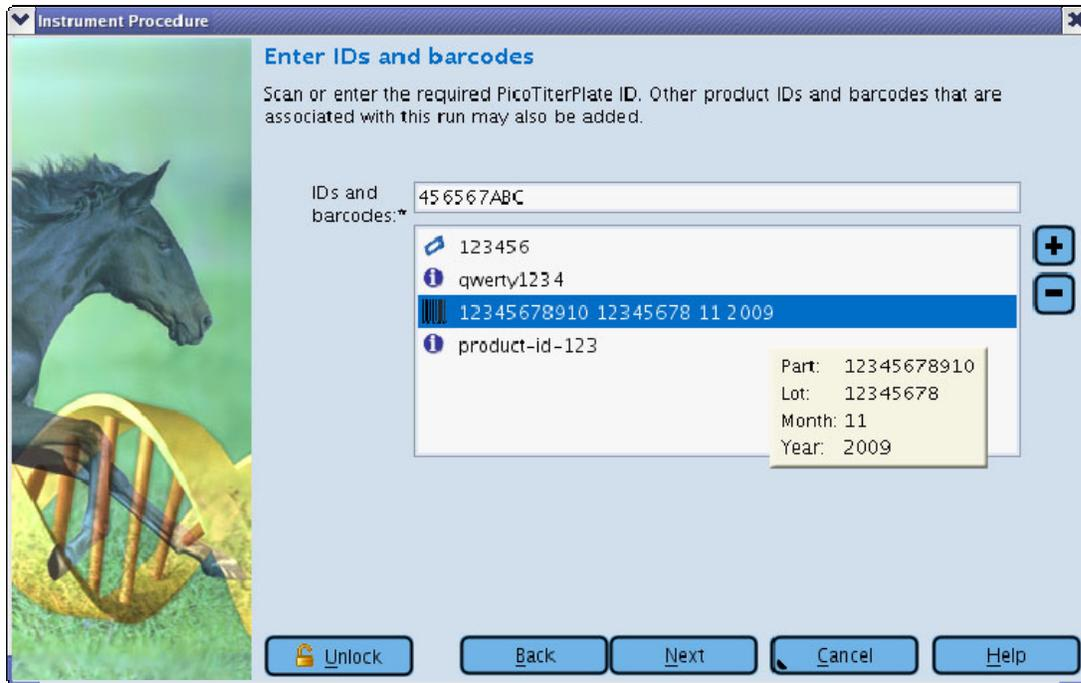

Figure 10: GS Sequencer Run Wizard – ‘Enter IDs and barcodes’ window
2. **Enter IDs and barcodes** (Figure 10) This form requests you enter the product IDs or barcodes of materials that are associated with this Run. The only required ID is the six digit PTP ID found as a barcode stamped on the device. The list can only contain one PTP ID so additional six digits ID cannot be added to the list.